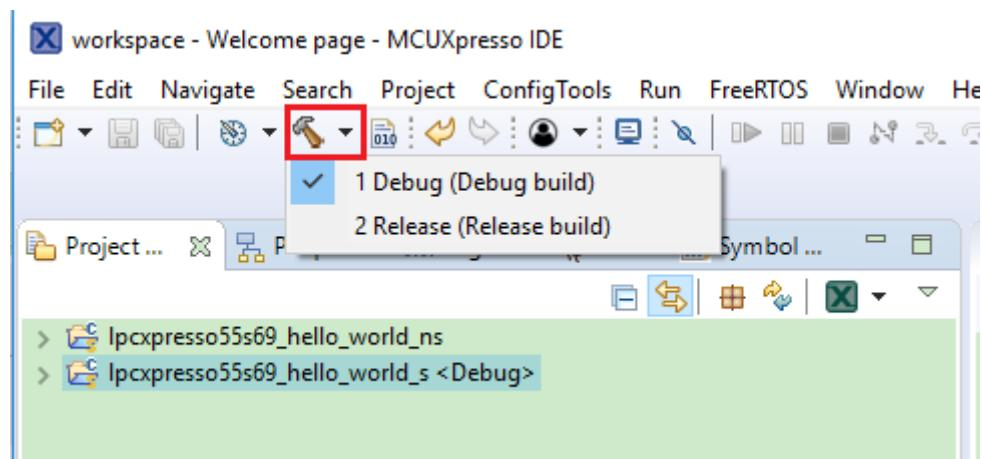

Figure 30. Selection of the build target in MCUXpresso IDE
3. Now, two projects should be imported into the workspace. To start building the TrustZone application, highlight the lpcxpresso55s69_hello_world_s project (TrustZone master project) in the Project Explorer. Then, choose the appropriate build target, **Debug** or **Release**, by clicking the downward facing arrow next to the hammer icon, as shown in Figure 30. For this example, select the **Debug** target.